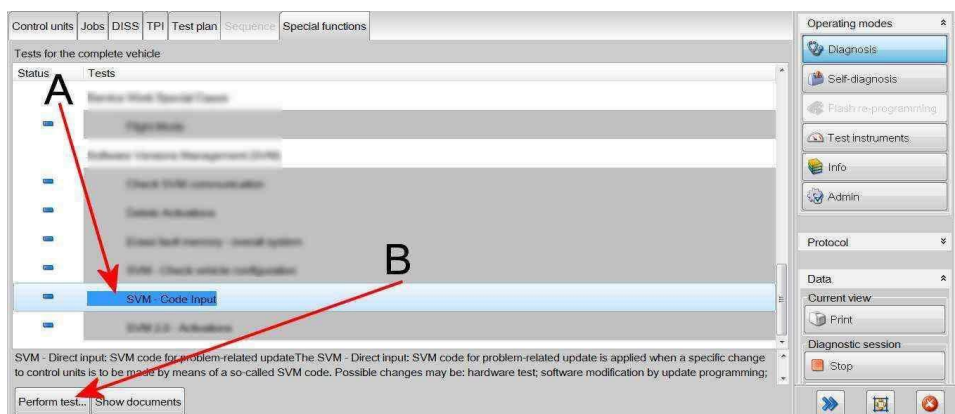

Figure 1
- Because of the highest transmission stability you **MUST** use the diagnosis interface VAS 6154 (WiFi diagnostic tool) **ONLY** in USB operation or the cable-connected VAS 5055 for the reprogramming (updating) of control units. If these units are not available, the diagnosis interface VAS 5054 (A) can also be used in USB mode
- Referring to Figure 1 - Within the Special function tab - Select SVM - Code Input (Point A)